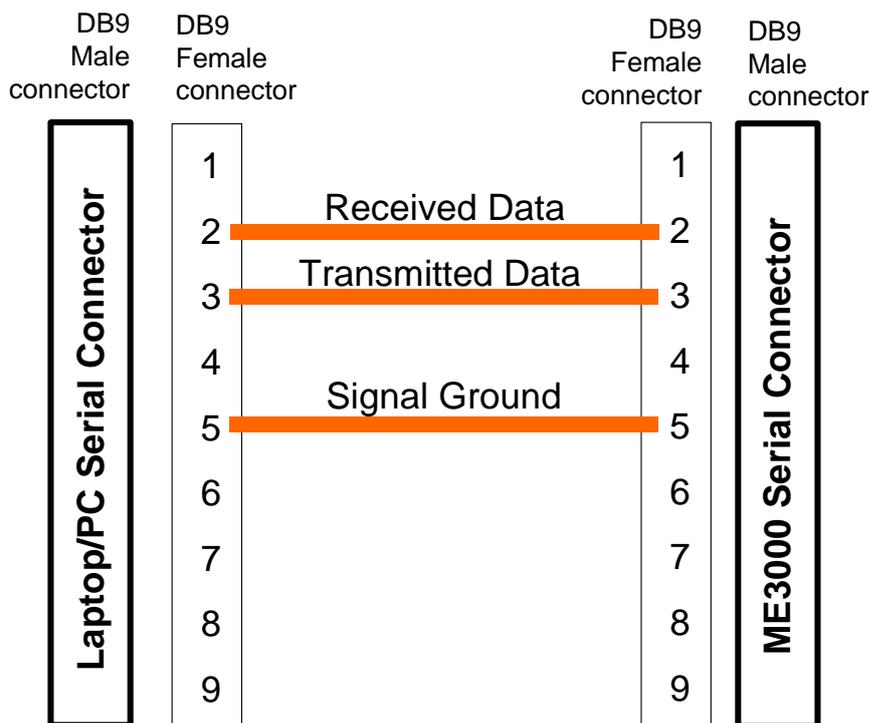
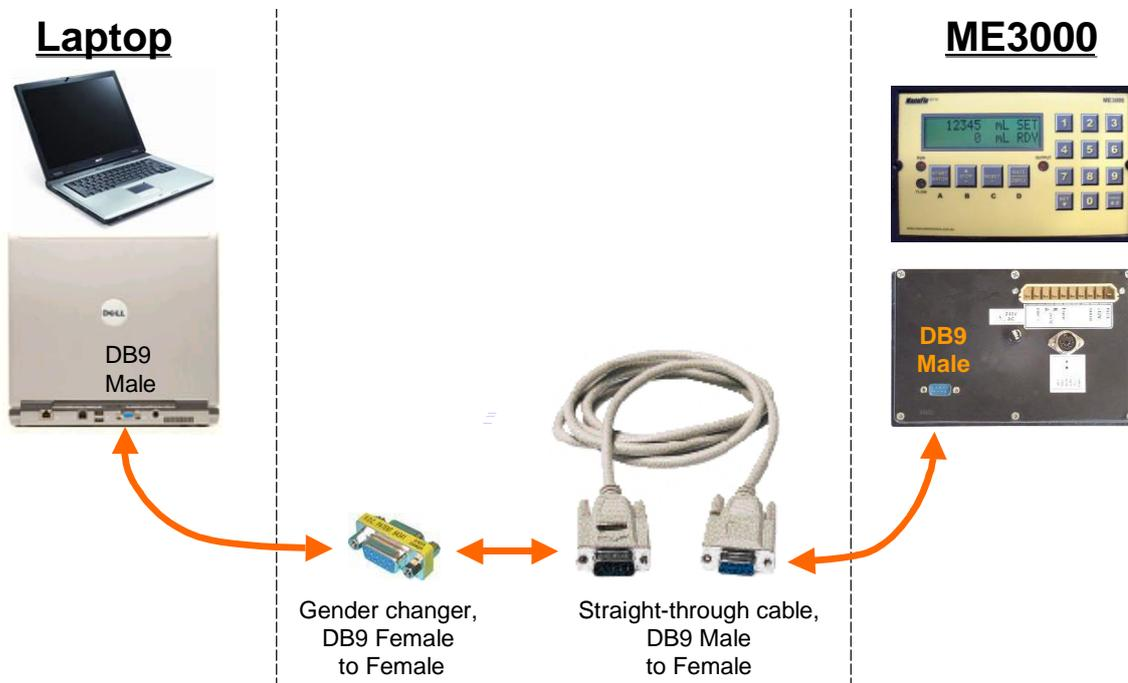

Figure 21. Serial cable wiring for connection to Laptop/PC
Figure 22. Connecting to Laptop/PC
Figure 21 below is the wiring diagram for a serial connection between the ME3000 and a laptop or PC, to be able to download the Event Log.
The user can construct their own cable for the serial connection, or there are commercially available cables and adapters, as shown in Figure 22 and Table 9 below.
- 2 Connect the ME3000 to a laptop or PC: using a straight-through female-to-female DB9 cable, connect from the Batch Controller’s RS232 port to the serial port of a Laptop/PC (see Figure 21 on page 32 and Figure 22 on page 33).